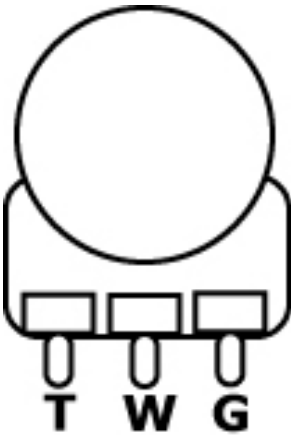

fig 7
- 5) There are three lugs on a pot, labeled as 'T', 'W', and 'G' in fig 7.